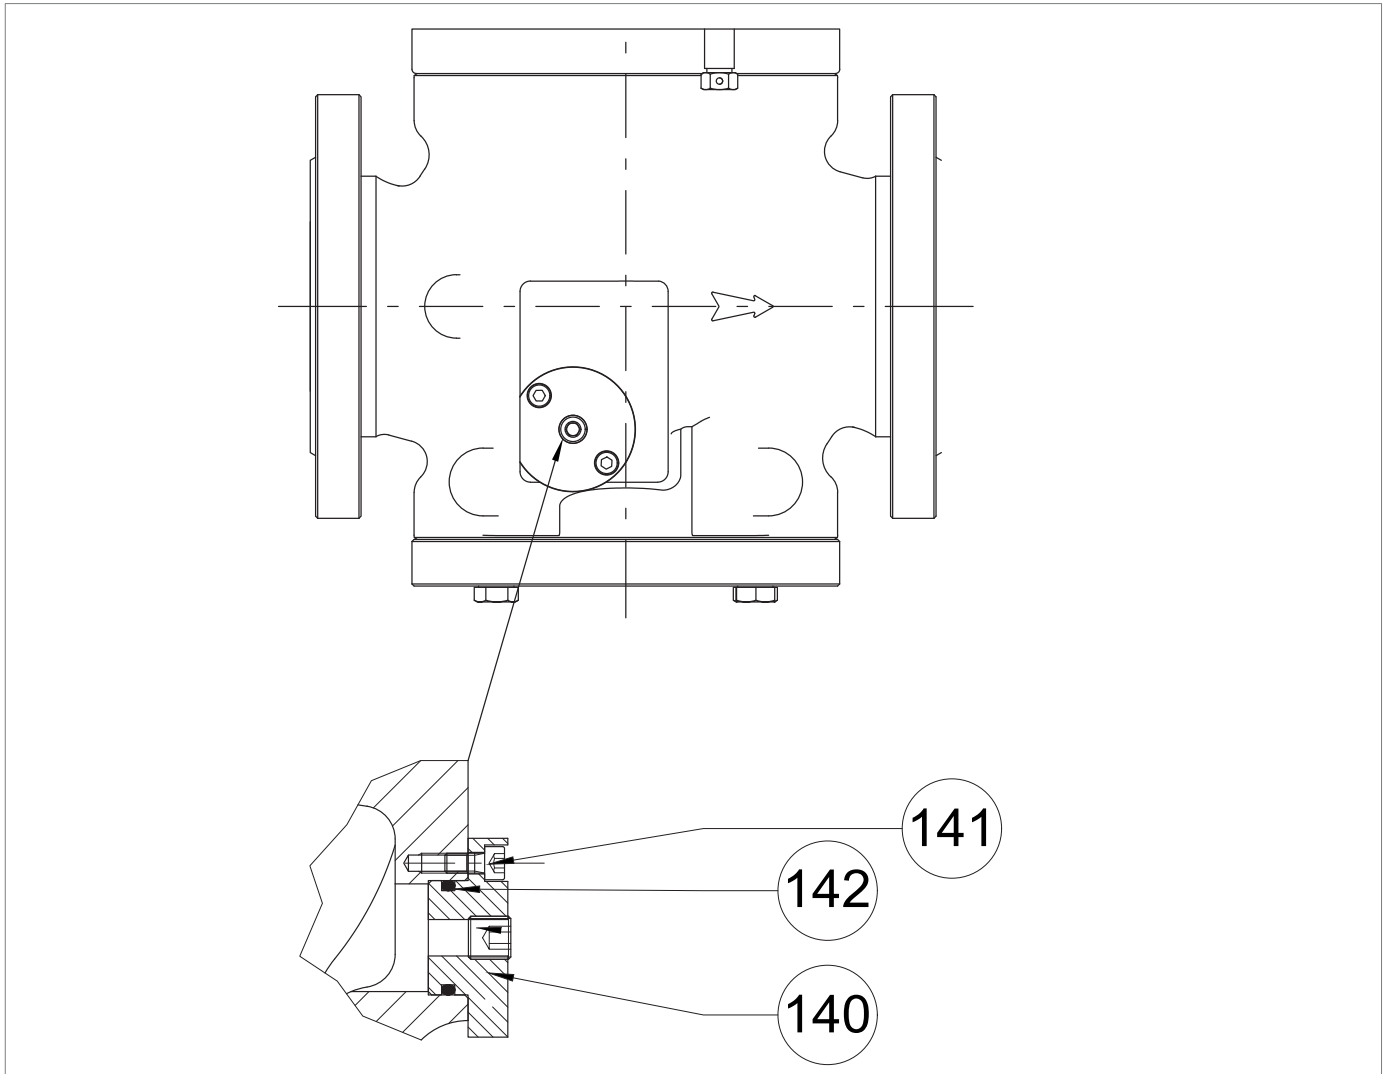

Fig. 9.70. Detail of the regulator cap
If there is no built-in SA slam shut valve, the cap (Fig. 9.70, ref. 140) closes the housing hole for the SA pressure switch (see par. 9.4.10).